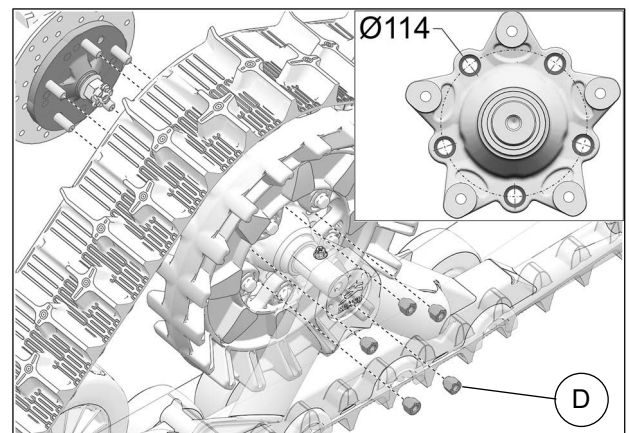

Fig. 8
8. Secure undercarriage to rear hub using the lug nuts (D) provided. Use bolt circle Ø114 mm. See Fig. 8